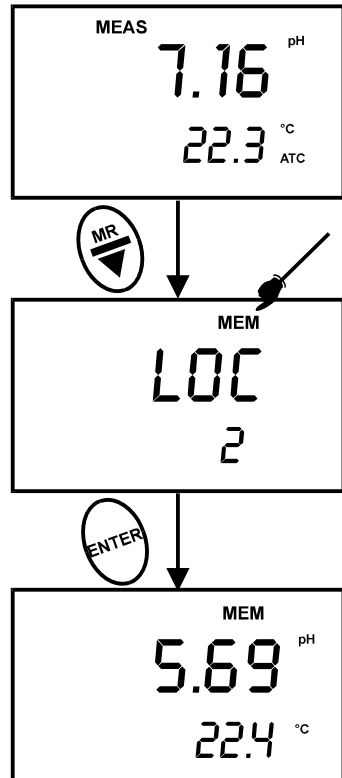

Figure 18 - Memory recall function
*For pH 300 meter only:* Press the ENTER key again to return to the “memory location” screen. See Figure 18.